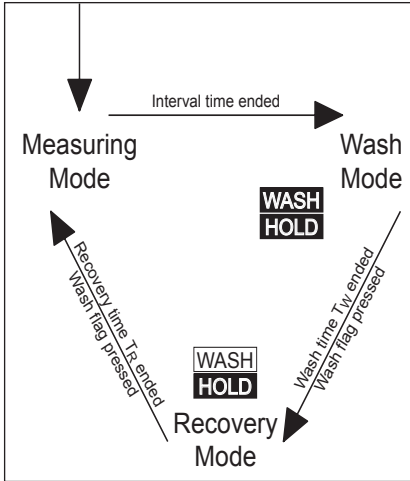

Figure 6-1. Wash cycle
**WASH HOLD** The user can decide to terminate the current wash cycle. This is done in the main screen (all other screens are deactivated) by pressing the wash flag (once or twice). The wash cycle has two time intervals ( $T_W$  and  $T_R$ ) and depending on the moment of pressing the “wash” flag the current interval is ended (see fig. 6-1)